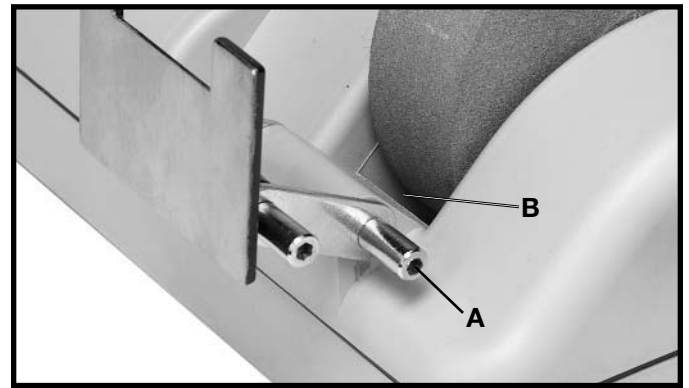

Fig. 3
3. Loosen the the front tool rest adjusting screw (A) Fig. 3, and move the front tool rest away from the grinding wheel.
4. Pour approximately 3 ounces of water into the front of water trough (B) Fig. 3. **CAUTION: NEVER POUR WATER INTO THE UTILITY SHARPENER WHILE IT IS RUNNING.**